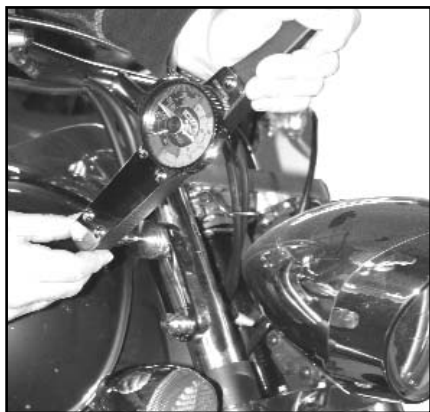

Figure 6
6. Tighten the top and bottom M8 Screws to 15 FT/LBS. (21 Nm) (180 IN/LBS). **Figure 6 (Torque Wrench).**